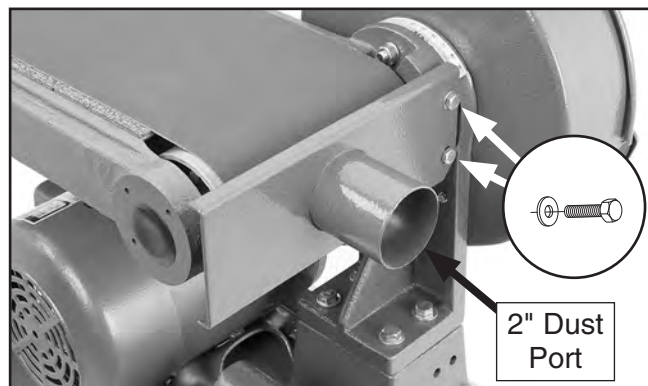

Figure 36. 2" dust port installed.
18. Install the 2" dust port onto the back of the sanding belt frame with the pre-installed $\frac{1}{4}$ "-20 x $\frac{1}{2}$ " hex bolts and flat washers, as shown in **Figure 36**.